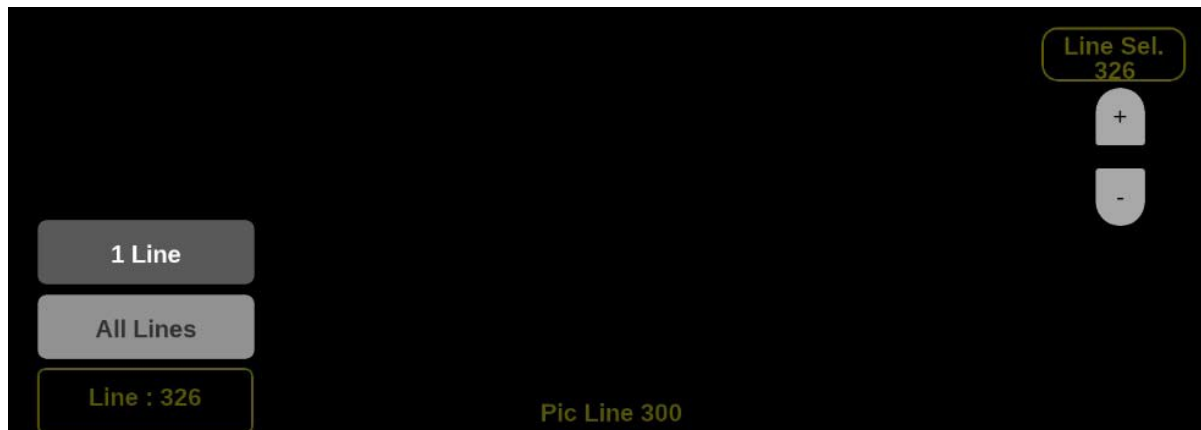

Figure 201: Stop Display on-screen tools – Line Select
If **1 Line** is selected then the display will only show results for the selected line in the picture. The line can be selected using the on-screen tools. (See Line Select function.) Or the line can be selected directly on the Picture. (See Figure 201.)
1. Select the **Lines** button at the bottom of the application. (See Figure 201.)